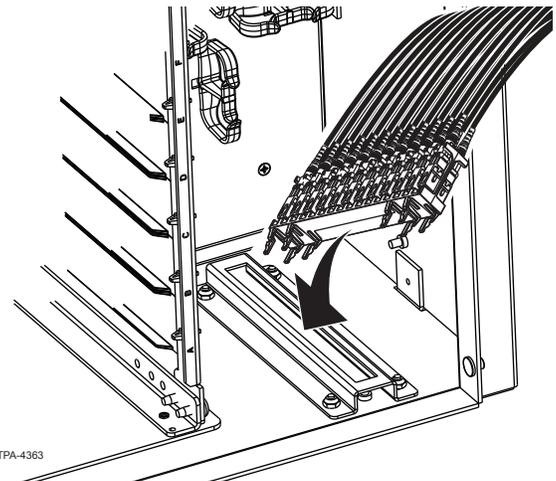

Figure 25
- Step 2:** Store the connector clip in the connector parking field (Figure 25) at either the top or bottom of the housing. Ensure the dust caps are in place on the connectors to protect the connector end face from damage.